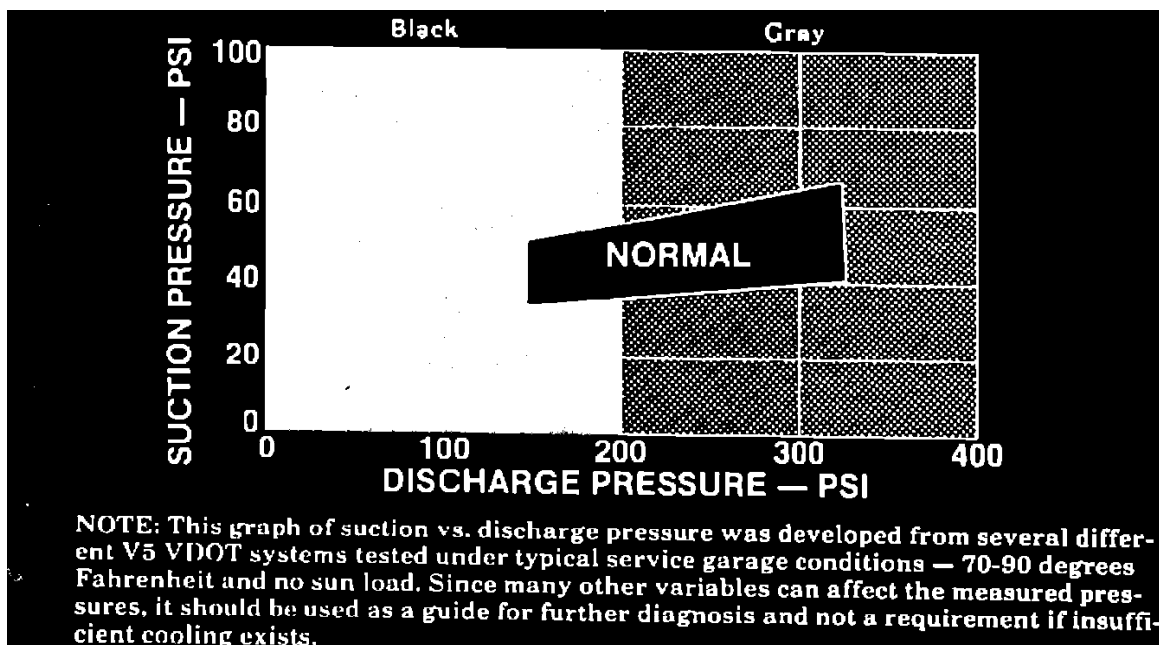

FIGURE 2 - SUCTION VS DISCHARGE PRESSURE
- b. Check diagnostic test chart (Figure 2) and locate intersection of recorded suction and discharge pressures. Determine color of area in which the pressures intersect (white, gray, or black).